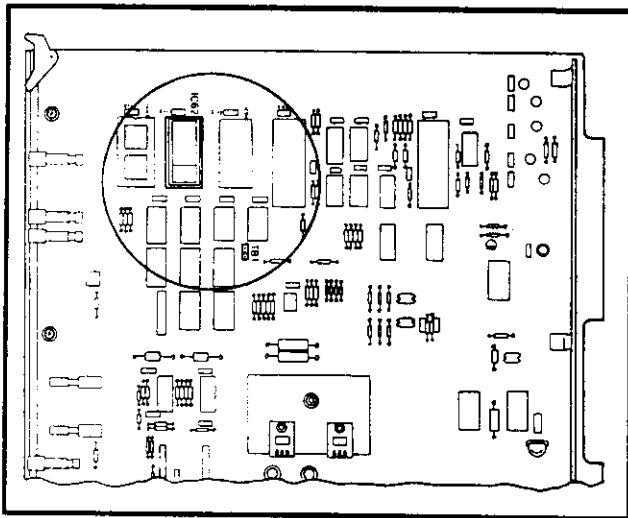

FIGURE 23—DPMU PCB STRAPPING
then a digitized voice message will be heard when an automatic wake-up call is answered. Prior to the installation of this card, strapping must be performed to specify interrupted or continuous messages (Figure 23). If a 3-second pause is desired between messages, then pins 1 and 2 of TB1 must be strapped. If the message is to be continuous, then pins 2 and 3 must be strapped. After strapping, install the DPMU PCB as per Figure 17. A DPMU card is required in any expansion cabinet which contains one or more DSTU cards.
- 5) Determine the proper impedance for each trunk and then strap its DCOU circuit for either 600-ohm or 900-ohm operation. At each strapping location, install the shorting bar across the center pin and the pin corresponding to either the 600 or 900 label (Figure 23). The strapping location for each circuit is shown below: